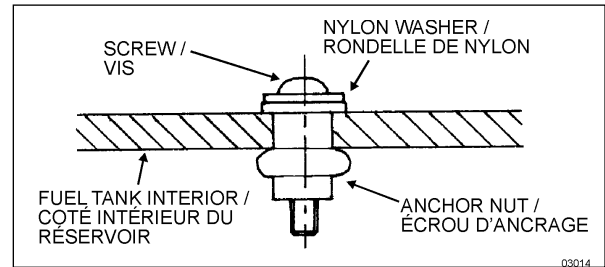

FIGURE 30: FUEL TANK REPAIR
7. Shim arrangement may vary and may be stacked on both sides (Figure 30).